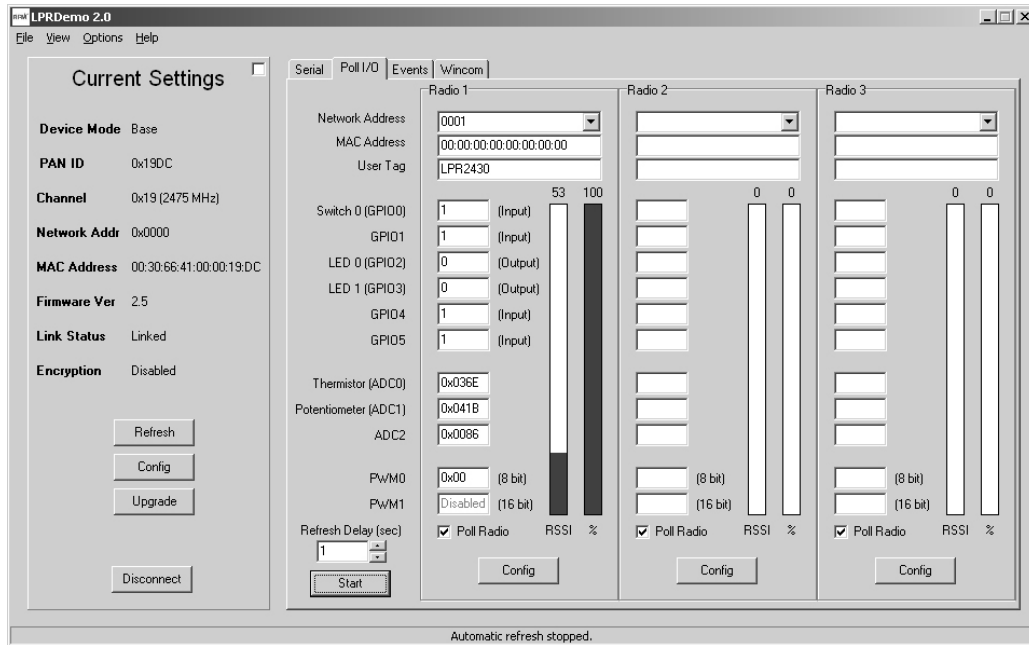

Figure 6
- Next power up the Remote by plugging in its power supply or installing a battery. Click on the *Poll I/O* tab. Figure 6 shows the *Poll I/O* screen. Select the Remote's network address, 0001, in the *Network Address* drop-down box for *Radio 1*. If the address is not present, wait a few seconds to give the remote time to register with the base.